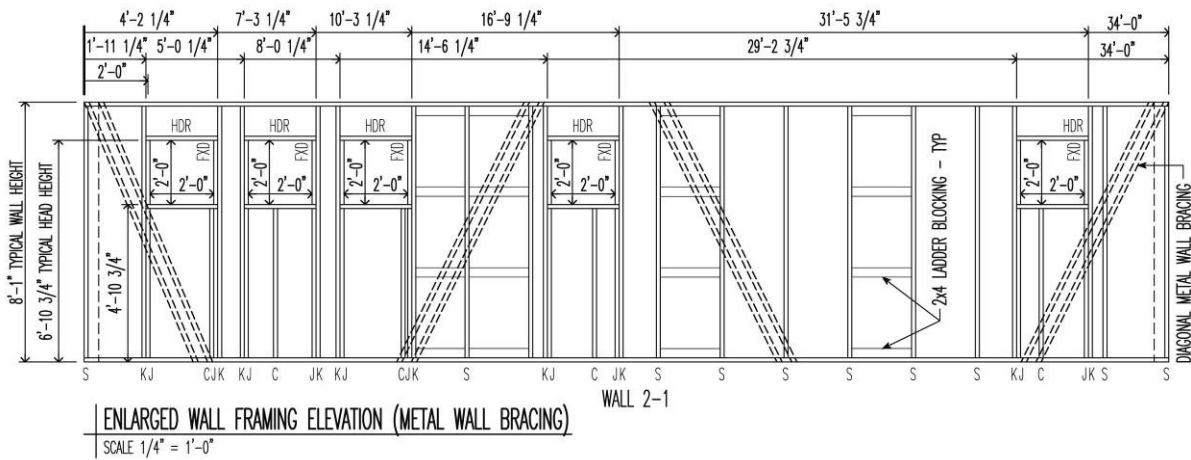
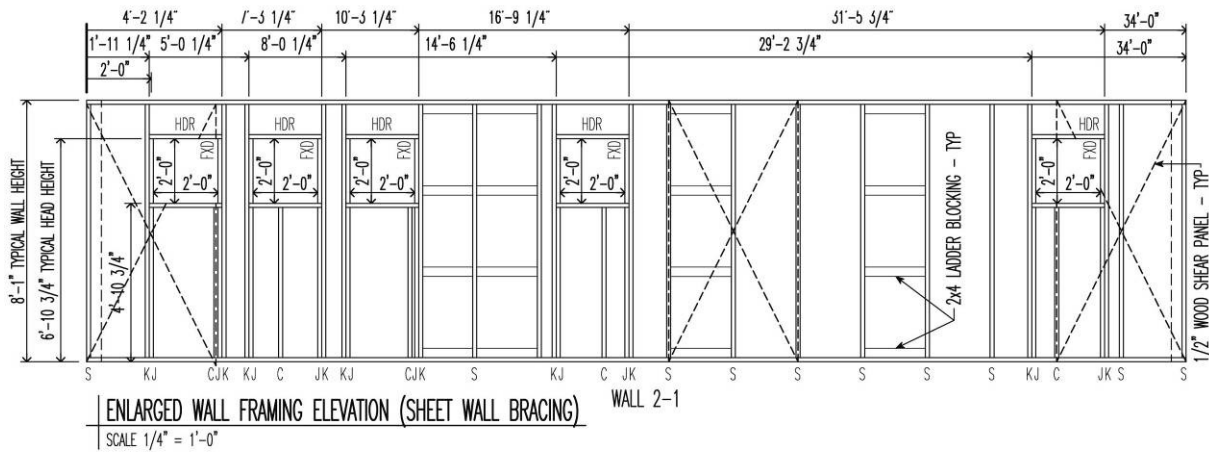

Figure 9: Braced Wall Panel – Diagonal Metal Bracing
Figure 10: Braced Wall Panel – Intermittent Bracing
- All exterior wall framing layouts are part of the construction documents. A detailed framing plan showing all exterior wall framing is in the Architectural Drawings. A detailed framing plan shows every stud, cripple, plate, and header as shown in Figure 8, Figure 9, and Figure 10.